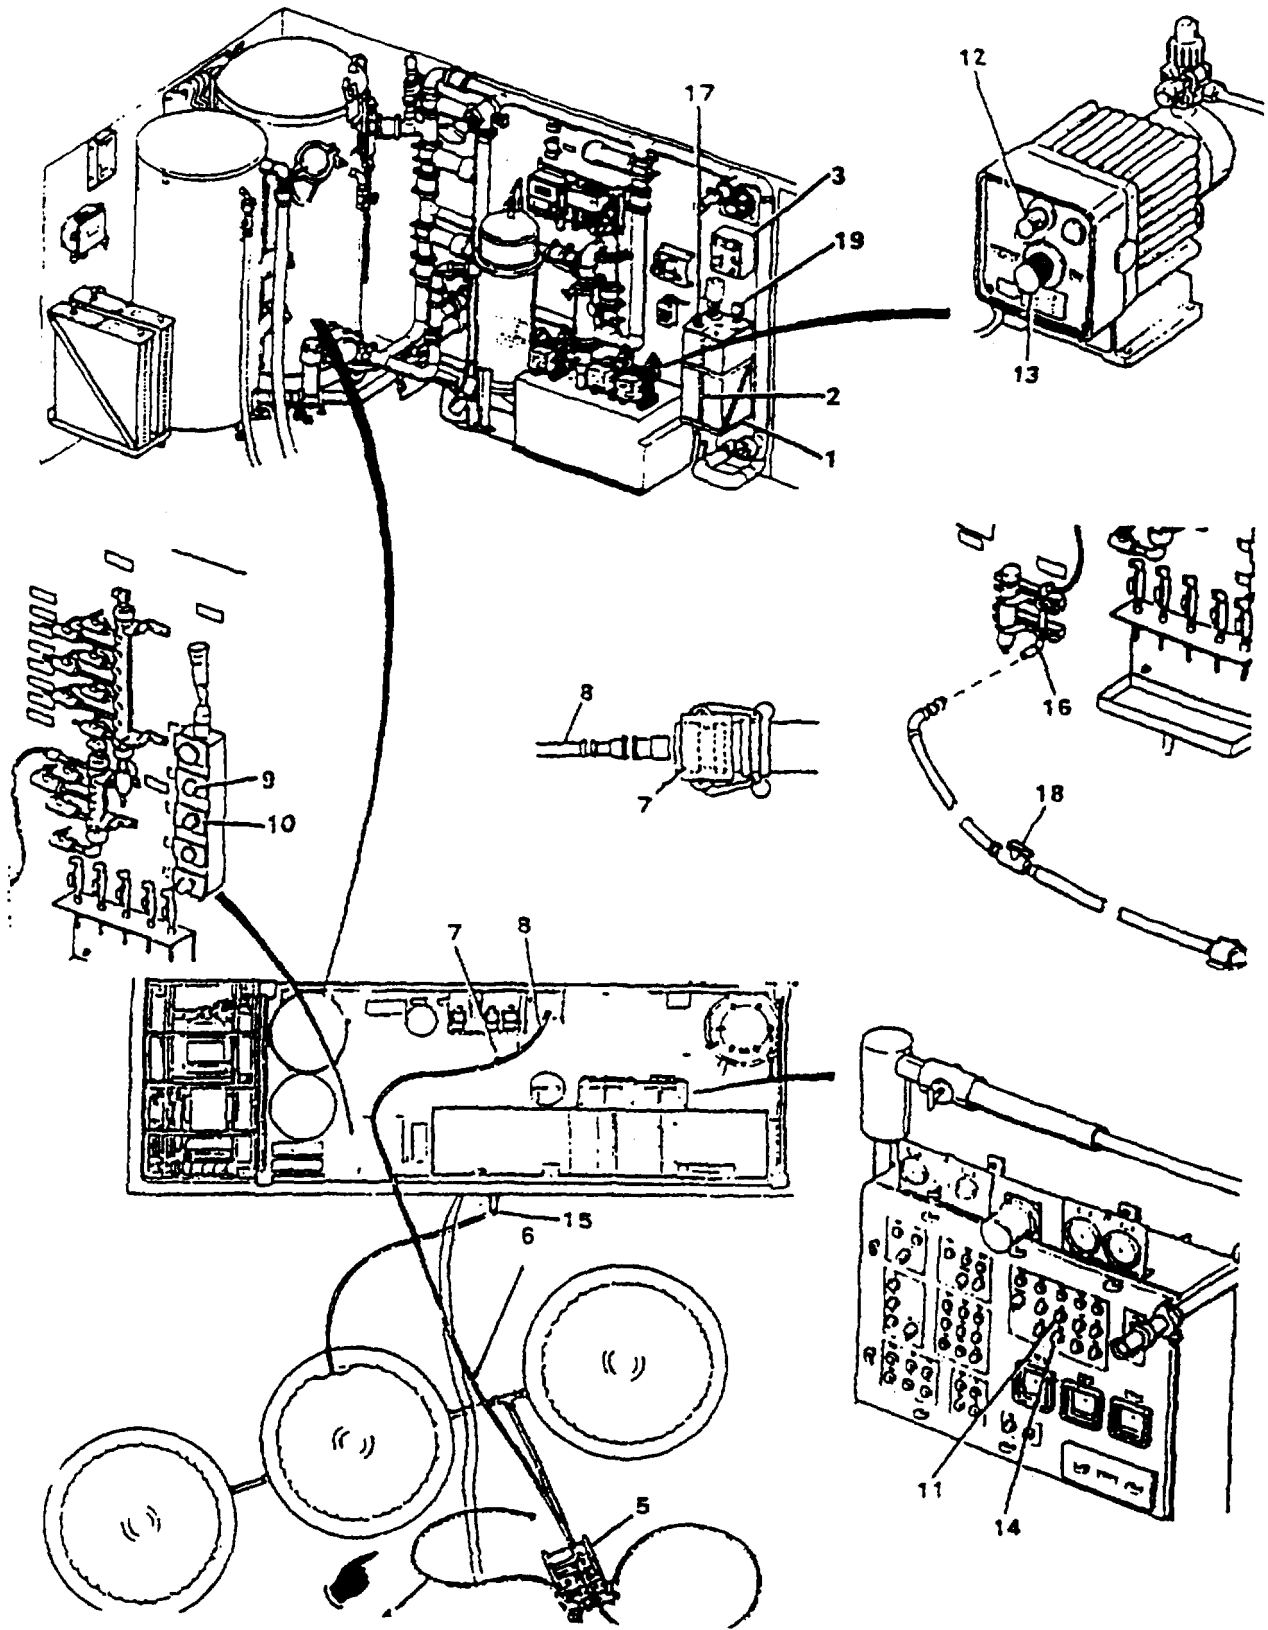

Figure 2-53. Hypochlorite Flush
- After flow is established, push HIGH PRESSURE PUMP START (21).
- (8) Bisulfite sanitizing cleaning.
- c. *Hypochlorite Flush* (Figure 2-53). When shutdown periods exceed 2 days, clean hypochlorite tank and pump as follows:
- (1) Water flush.
- Open hypochlorite tank drain valve (1).
- Wait until level drops below MIXER on tank level gage (2) and turn MIXER switch (3) to OFF.
- Disconnect one dispensing hose (4) from distribution pump (5) and connect auxiliary fill hose (6).
- Pass auxiliary hose (6) through doorway and connect water flush adaptor (7) to hose end.
- Connect air/water utility "flush/purge" hose (8) to water flush adaptor (7). Insert into hypochlorite tank quick-disconnect and slowly open the "flush/purge" hose valve to prevent blowing the lines.